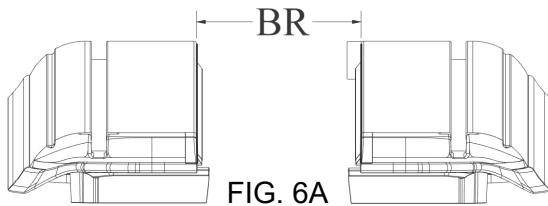

FIG. 6A
Check for proper spacing by measuring between the rails at the canister and the tailgate end of the rails (Fig 6A). The measurement should be equal to or less than those in Fig 6B. The Rail Brackets and Shims have been pre-installed to achieve the proper Between the Rail dimensions (BR) when placed on an average factory truck bed. However, not all truck beds are average dimensionally and some have optional plastic caps or over the rail spray-in bedliners.
Verify the BR Dimension after the rails are leveled (STEP 6, FIG. 6A & FIG. 6B)